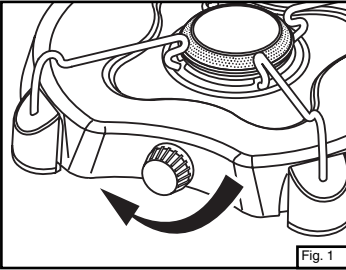

Fig. 1
- Turn FUEL VALVE "off". (Fig. 1)